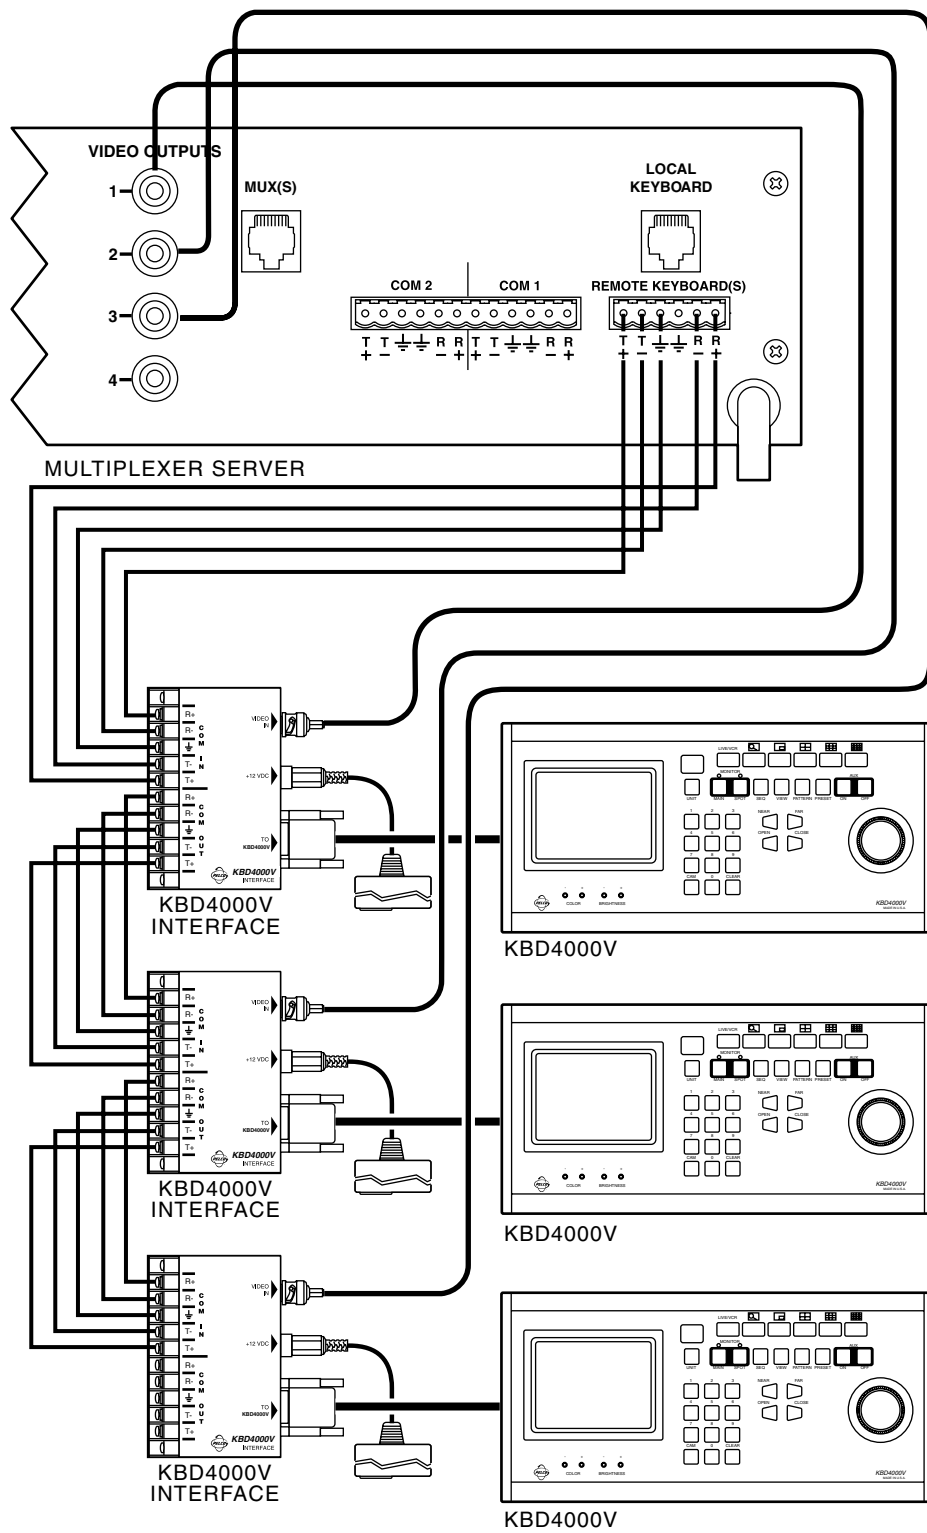

Figure 4. Connecting KBD4000Vs to a Multiplexer Server
Refer to Figures 4-6 to wire the KBD4000V to the REMOTE KEYBOARD(S) port. Figure 4 shows multiple KBD4000Vs connected to the server. Figures 5 and 6 show a single KBD4000V keyboard with KBD4000 or KBD4002 keyboards.